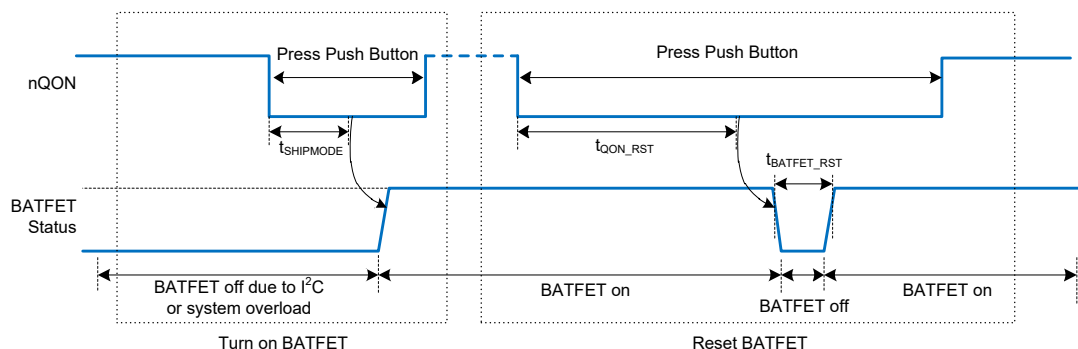

Figure 11. nQON Enable and Reset BATFET Timing
1. Enable BATFET: Applying an nQON logic high to low transition with longer than $t_{SHIPMODE}$ deglitch time (negative pulse) turns on BATFET to exit ship mode (Figure 11 left). HIZ is also enabled (EN_HIZ = 1) when exiting shipping mode. After exiting shipping mode, the host can disable HIZ (EN_HIZ = 0). OTG cannot be enabled until HIZ is disabled (OTG_CONFIG = 1).
2. Reset BATFET: By applying a logic low for a duration of at least t_{QON_RST} to nQON pin while VBUS is not powered and BATFET is allowed to turn on (BATFET_DIS bit = 0), the BATFET turns off for t_{BATFET_RST} and then it is re-enabled resulting in a system power-on reset. This function can be disabled by clearing EN_BATFET_RST bit (Figure 11 right).